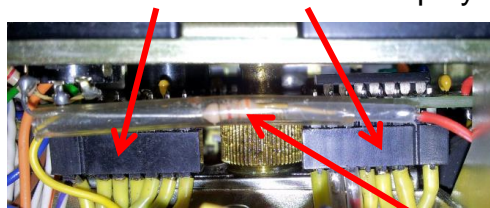

Figure 2
- ☐ Carefully plug the two pin headers connections back to the new display board (see Figure 2).